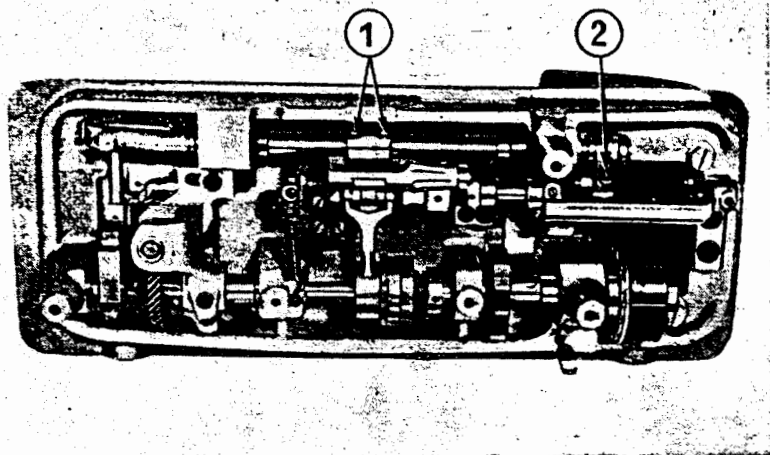
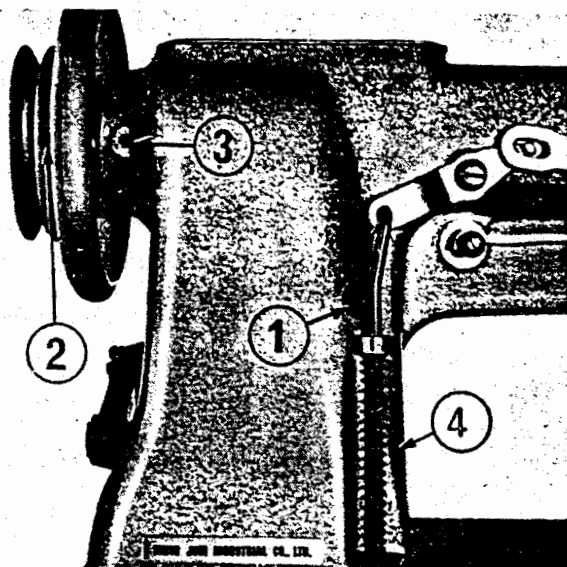

Fig. 18
Fig. 24
When the stitch length is set at "0" and if the relative position of the work foot bar with the presser bar is not right, loosen the 2 clamp screws of the feed rocker shaft crank (Fig. 18 ①), match the clearance between the presser bar and the working foot bar at 8.54 mm (5/16") and then tighten the set screw.
Also, to set the correct relative position of the needle bar frame with that of the feed dog, first, set the stitch length at "0," then loosen the needle bar frame rock shaft crank screw (Fig. 18 ②) and loosen the rear set screw of the needle bar frame from the hole (Fig. 24 ①) in the back of the arm. And further, when the needle comes near the center (or nearer the front side) of the needle hole of the feed dog, tighten the 2 clamp screws and make the needle bar frame rock shaft crank parallel to the surface of the bed by holding this position.
Remove the needle bar frame and the face plate, insert a screw driver into the hole (Fig. 24 ①), loosen the screw of the needle bar frame rock shaft crank and take out the needle bar frame rock shaft.
Loosen the 2 set screws of the belt groove of the hand wheel (Fig. 24 ②) and pull out the hand wheel. Then, loosen the main shaft rear bushing set screw (Fig. 24 ③), remove the top cover, loosen the 2 screws